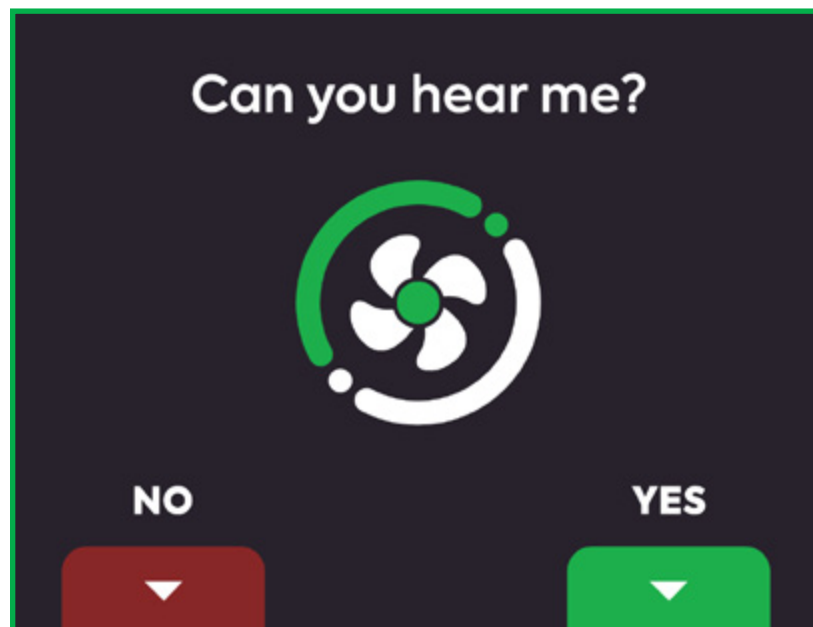

FIGURE 16
5. The identification procedure starts by automatically turning the compressor on and off multiple times. This verifies that the console you are trying to pair with, it the correct unit. When you hear the console, you can confirm pairing the controller. (Figures 16, 17)